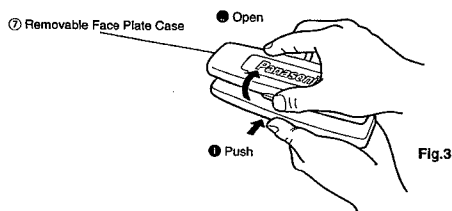

Fig.3
- ④ As shown in Fig.3, gently push the lower side of the case and open its cover. Keep the removable face plate in the case. Then, you can bring the plate safely.